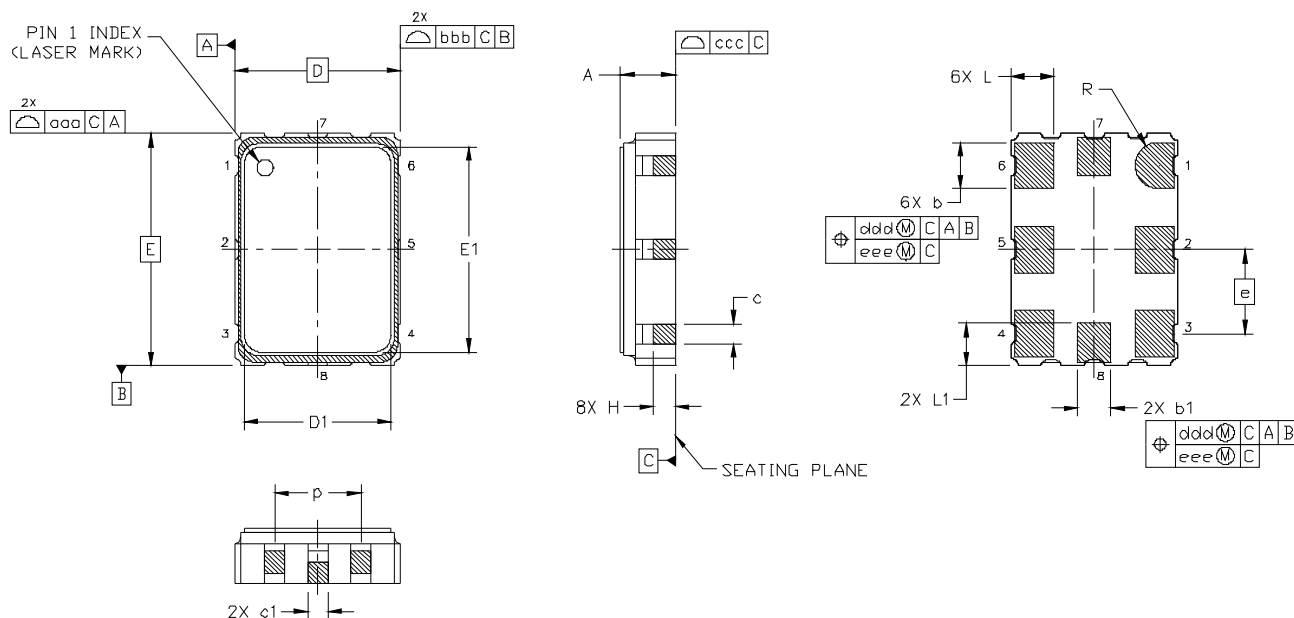

Figure 2. Si534 Outline Diagram
Figure 2 illustrates the package details for the Si534. Table 11 lists the values for the dimensions shown in the illustration.
- Revised Figure 2 on page 8 to reflect current package outline diagram.